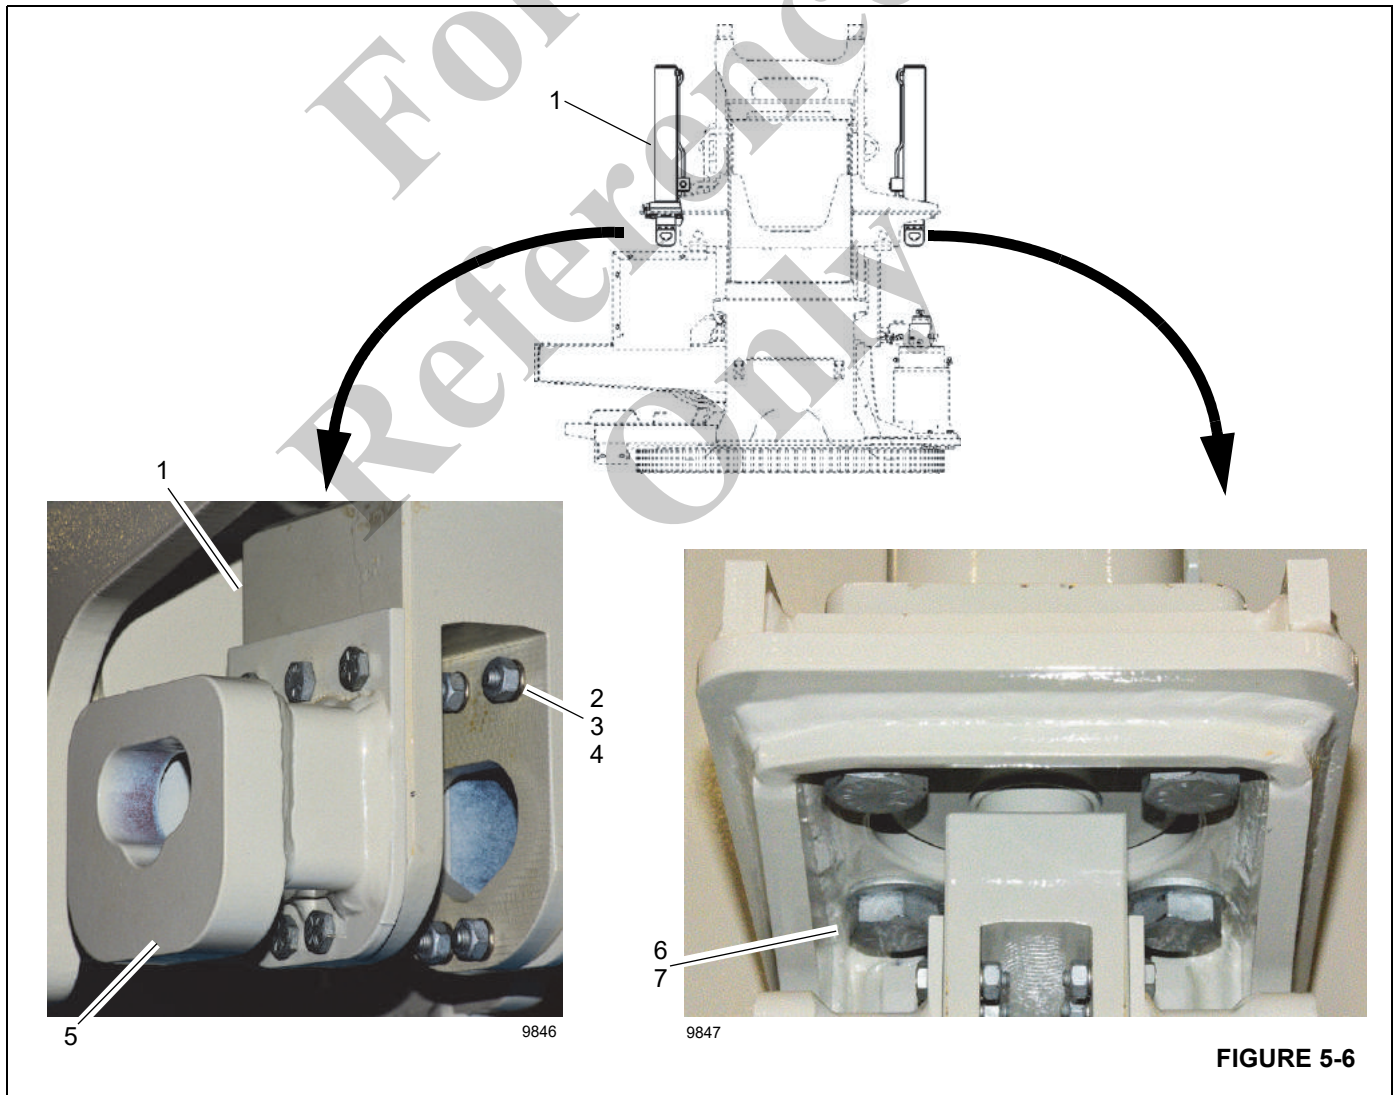

FIGURE 5-6
2. Fully retract the counterweight cylinder (1, Figure 5-6).